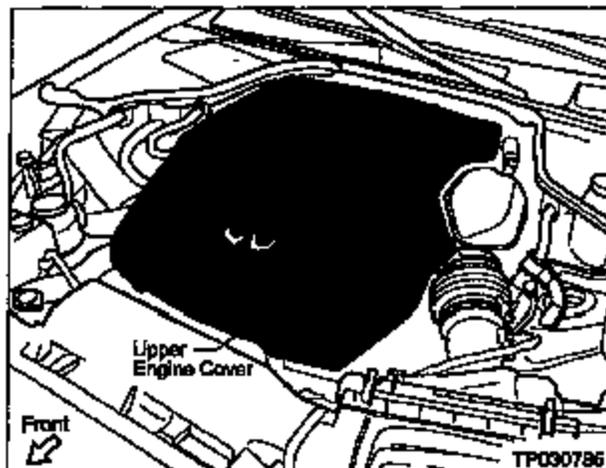

Figure 4
3. Remove the Upper Engine Cover (see Figure 4).